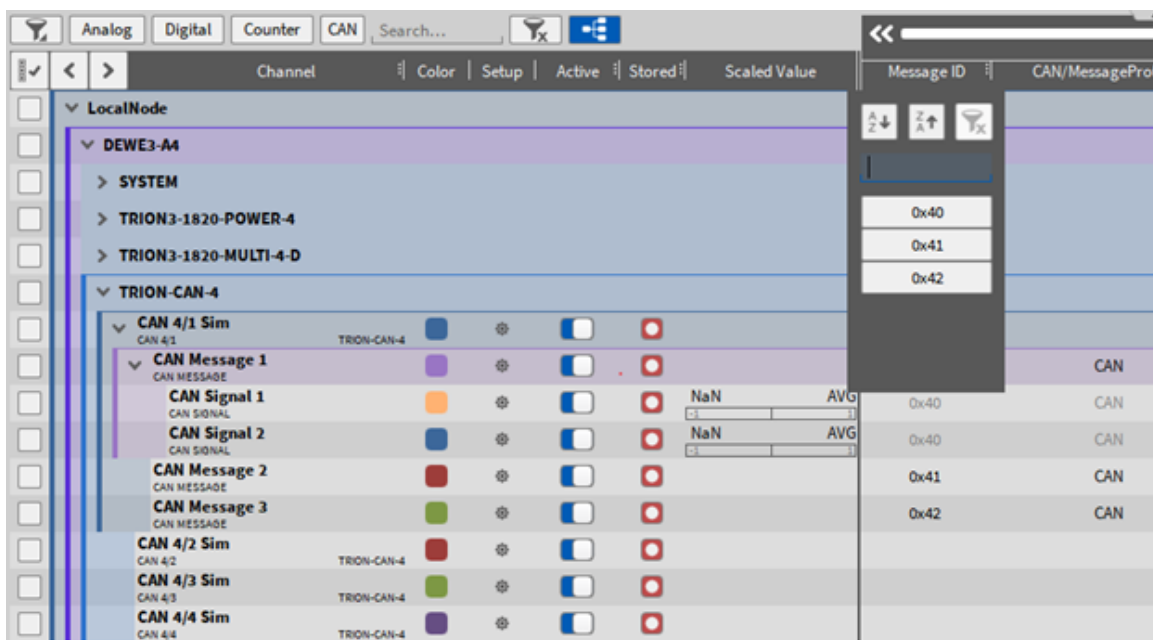

Fig. 4.55: CAN messages ID
- In the channel list it is also possible to filter the available CAN message IDs to get a better overview or to display only the CAN messages that are needed for the current application (see Fig. 4.55)